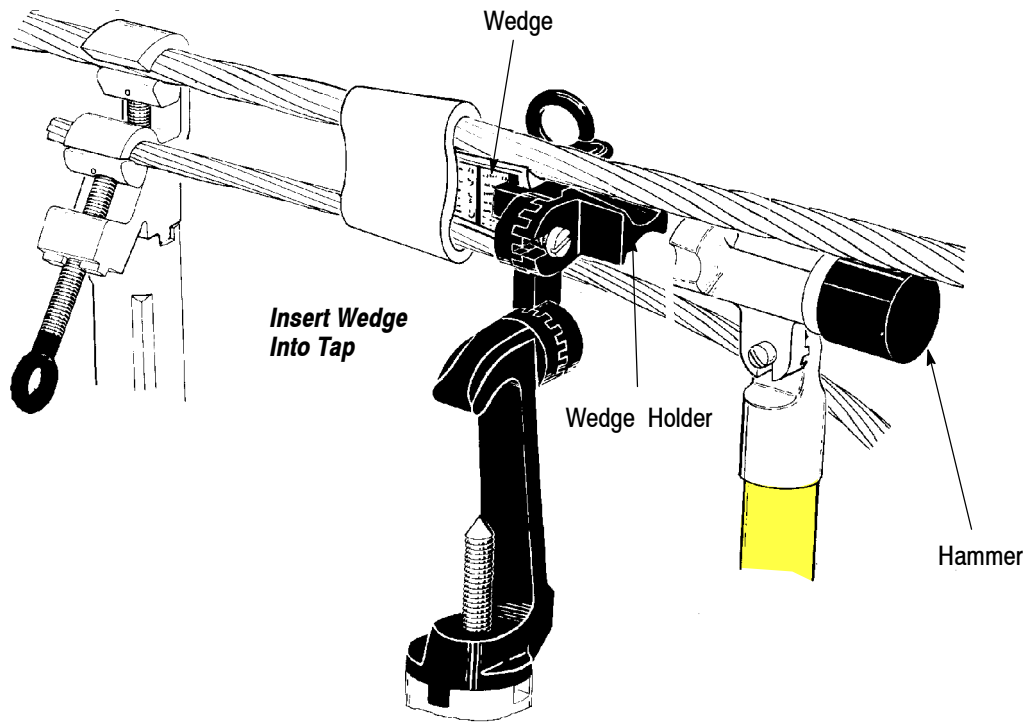

Figure 18
5. Maneuver the wedge between wires and into end of "C" member (Figure 18). The back of wedge holder may be used to bend end of tap wire to ease insertion of wedge. Strike the wedge holder with hammer sharply to secure wedge temporarily. The tap is now self-supporting.